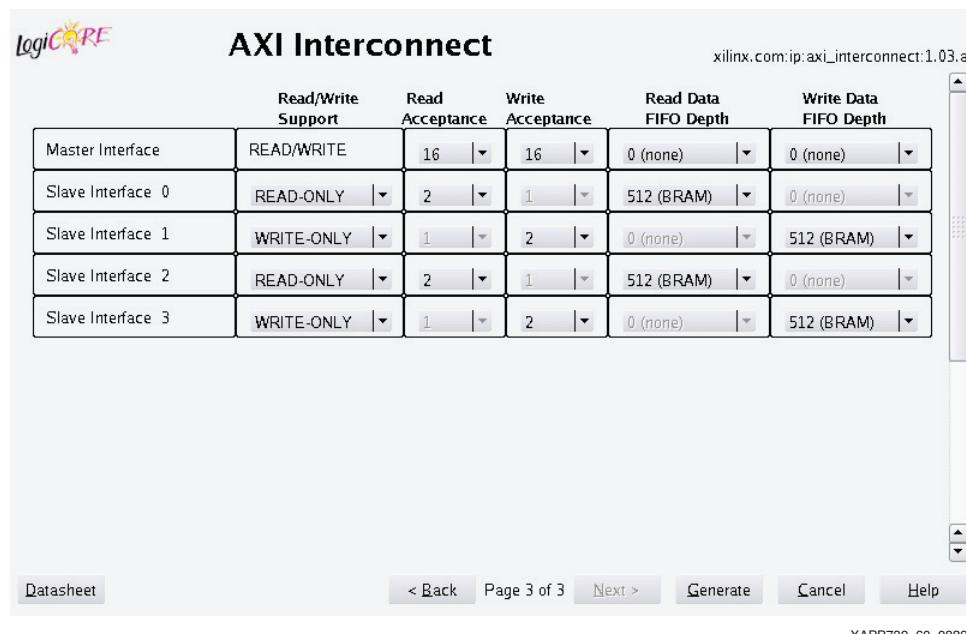

Figure 60: AXI Interconnect Settings Continued
52. In Page 3 of the AXI Interconnect IP Configuration GUI, use the following settings (Figure 60):